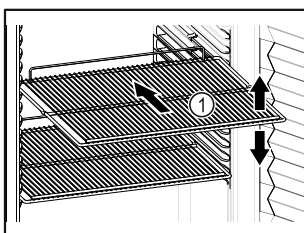

Fig. 61 Example illustration
- ❑ If storage surfaces *Fig. 61 (1)* are movable, adjust them according to height.